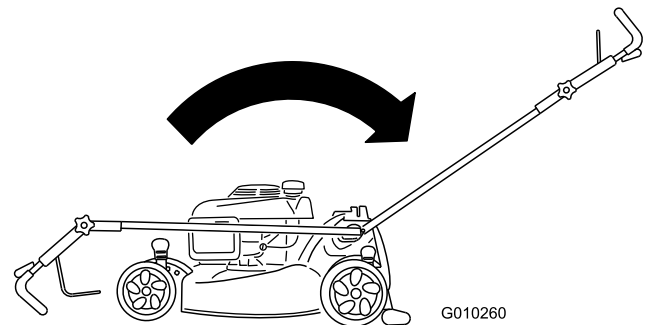

Figure 53
2. Move the handle to the upright position (Figure 53).